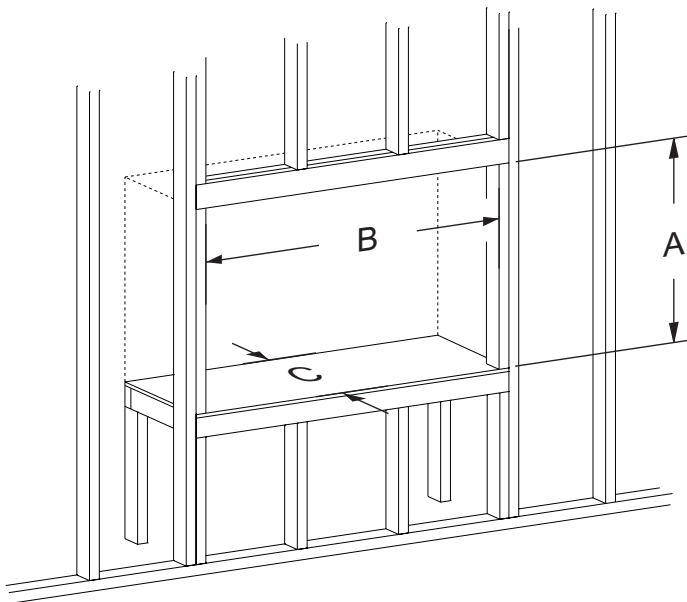

Figure 31 - Rough Opening for Elevated Installation
- Use Figure 31 for an elevated installation. Provide support to the bottom of the fireplace.